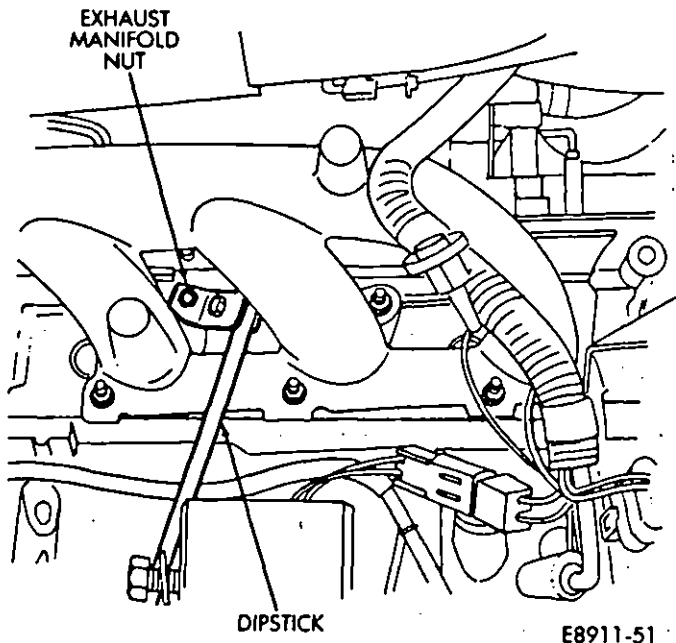

Fig. 4—Dipstick Removal/Installation
(9) Remove exhaust manifold nut securing the dipstick tube to the exhaust manifold (Fig. 4).
(10) Grasp the dipstick tube and twist it gently back and forth. This will break the seal around the tube. Carefully pull the tube up and out of the lower casing.
(11) Remove the remaining exhaust manifold mounting nuts. Remove the manifold and gasket.
(1) Install the exhaust manifold and gaskets.
(2) Tighten the nuts to 17.5 N·m (13 ft-lbs) torque.
(3) Apply Loctite 290™ or equivalent to the stop on the dipstick tube. Install it in the hole in the lower case.
(4) Connect the dipstick holddown bracket to the manifold stud (Fig. 4).
(5) Tighten the nut to 17.5 N·m (13 ft-lbs) torque.